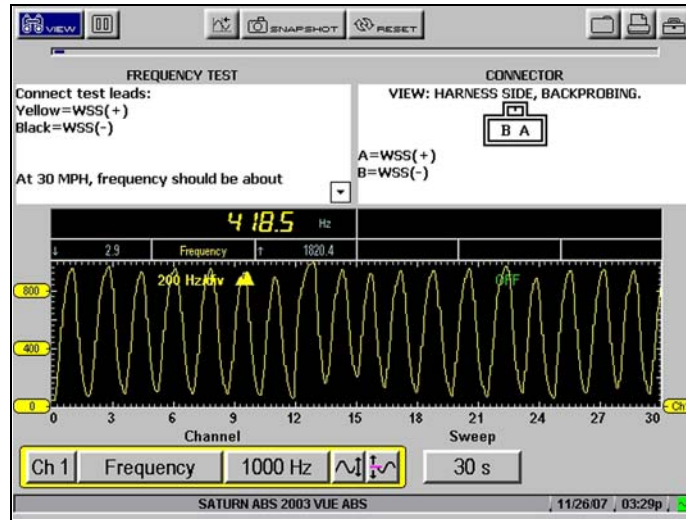

Figure 4-14 Sample test results
5. View and verify the test results as explained on-screen (Figure 4-14).